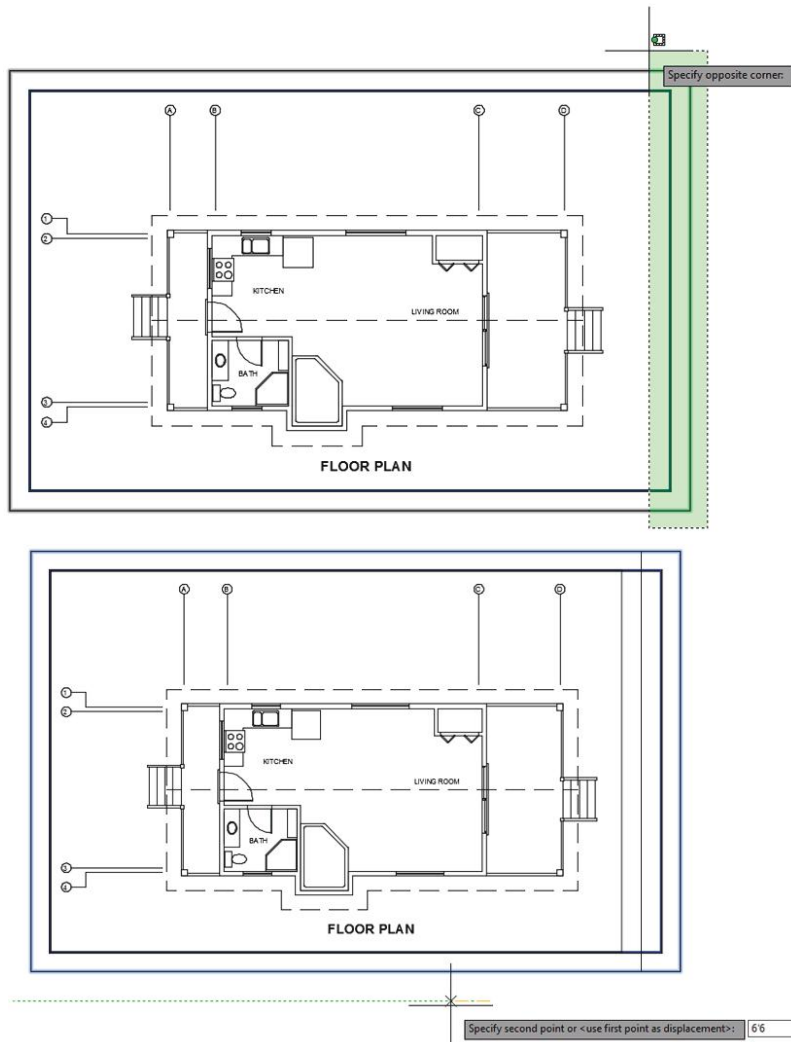

FIGURE 8.43: A crossing window selection around the inner-right title-block edge (top), and specifying the displacement distance (bottom)
3. At the `Select objects:` prompt, create a crossing window selection around the inner-right edge, as shown at the top of Figure 8.43, and press ↵.
5. With Ortho mode turned on, move your cursor to the left and use direct distance entry to specify a displacement of 6'-6" (2050 mm), as shown at the bottom of Figure 8.43.